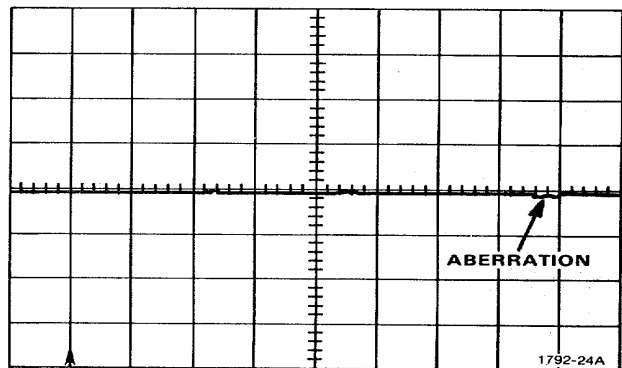

Figure 4-3. Aberration Check.
25. While viewing the trace, adjust the DISTANCE dial from 000 to 100. The trace aberrations must remain within ± 1 division of the centerline ($\pm 5\%$ peak aberrations for the first 10 feet). See Fig. 4-3.
53. While viewing the trace, adjust the DISTANCE dial from 000 to 050. The trace aberrations must remain within ±1 division of the centerline (± 5% peak aberrations for first 3 metres.) See Fig. 4-3.